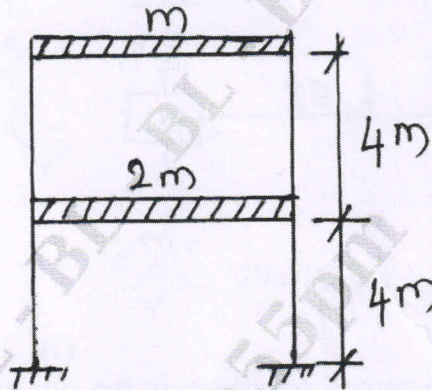

Fig.Q6
- 6 For the shear building, determine the natural frequencies and mode shapes. Check the orthogonality of mode shapes for Fig.Q6. Given: mass,  $m = 12800$  kg;  $EI = 20000$  kN-m2.